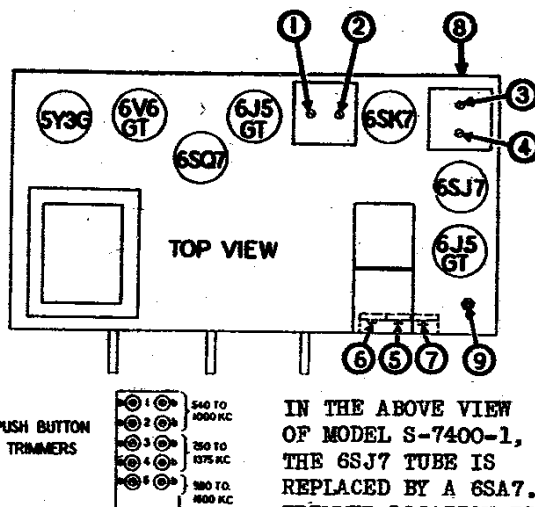

Fig. 1
3. Turn the set around so that the back of the set is facing you. Through the ten holes in the plate just under the dial will be seen ten adjusting screws (see Fig. 1). These screws are used to tune in the stations that the buttons are to be set to.
4. Each of the push buttons can be made to tune in stations in a definite frequency range as shown in Fig. 1. It is imperative that in setting up the buttons, you select stations whose frequency is in the indicated range of that button.
5. Turn the BAND SWITCH to the "AM" position, push in the button labeled "MANUAL," then using the tuning knob (see Fig. 1) tune in the station you wish to set to button No. 1.
9. To set up the remaining buttons use the same procedure; push in the "MANUAL" button, tune in the station using the tuning knob; push in the button to be set up; adjust its associated "a" adjusting screw until the station is tuned in (screw 2a for button No. 2 etc., see Fig. 1); the associated "b" screw is then adjusted for deepest tone as before.